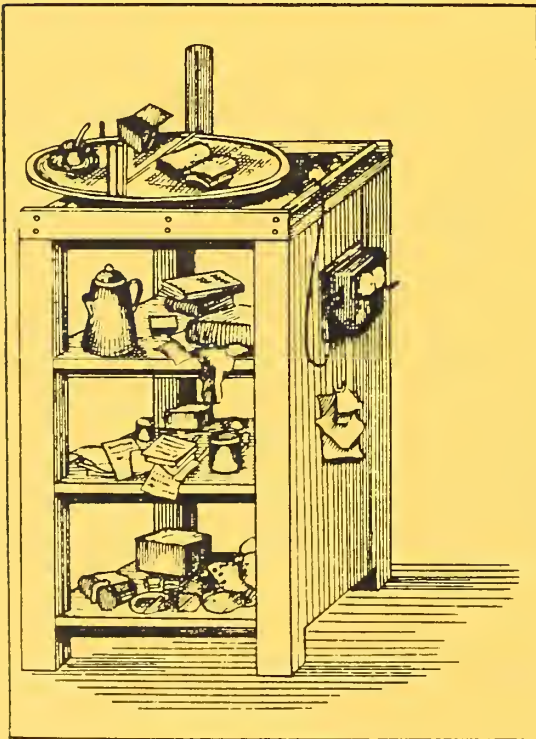

Figure 3.--Improper use.
2. Care of Firefinder (Figures 3 and 4).